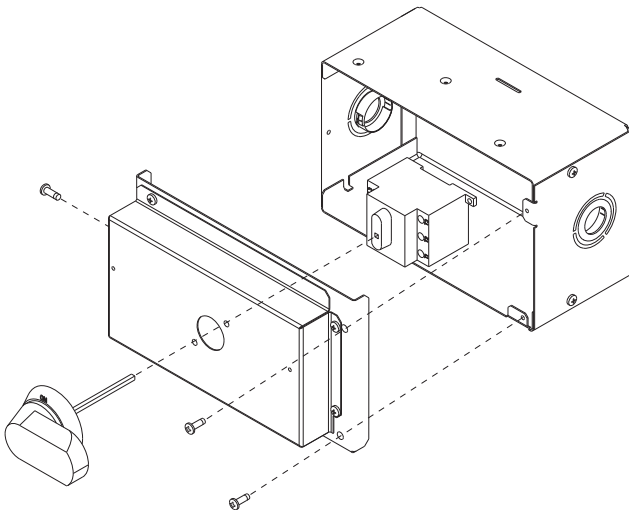

Fig. 28 — NFD Handle and Shaft Assembly
2. Remove (3) cap head screws that secure the NFD enclosure front cover — (2) on the face of the cover and (1) on the left side cover. See Fig. 28.
5. Insert the shaft with the cross pin on the top of the shaft in the horizontal position. See Fig. 28.
10. Secure the handle to the painted cover with (2) screws and lock washers supplied.
11. Engaging the shaft into the handle socket, re-install (3) hex screws on the NFD enclosure.